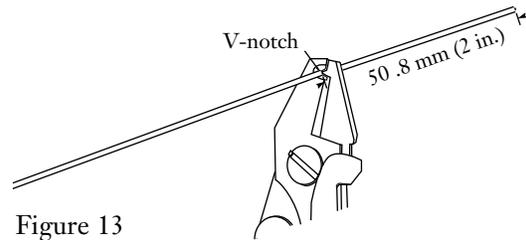

Figure 13
5.4 Measure and mark the required strip length on the 900 μm TBII® buffered fiber. Use the fiber optic stripping tool to remove the coating- for longer lengths, strip a maximum of 2 inches (50.8 mm) at a time (Figure 13).